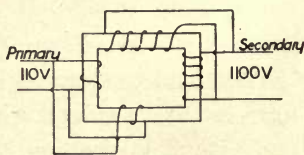

FIGURE 216.—110 VOLTS TRANSFORMED TO 1100 VOLTS.
2. If the primaries are connected in parallel and the secondaries in parallel, the voltage will be $\frac{1}{1} \times 110 = 1100$. (Figure 216.)